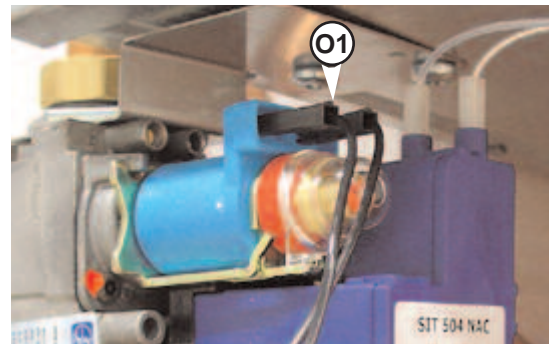

Fig. 18.44
3. Disconnect the wires from the modulator coil “O1”(see Fig. 18.44) ;